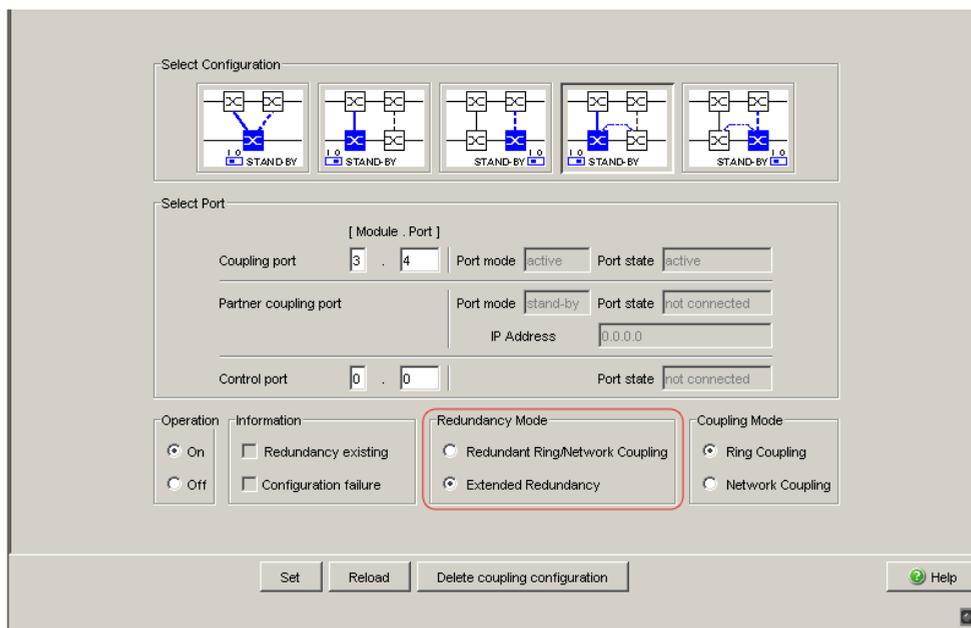

Figure 37: Selecting the redundancy mode
- In the “Redundancy Mode” frame, select (see fig. 37)